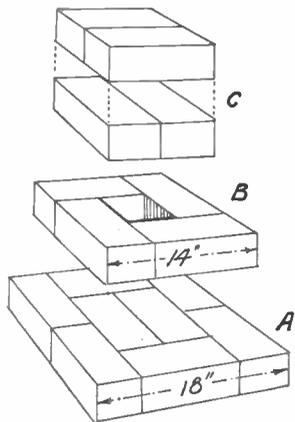

Fig. 1
tar composed of one part cement to three parts of clean sand. Put a  $\frac{1}{2}$ in. layer on the top of the concrete, and proceed to lay the first course of bricks as (A) in Fig. 1. Lay over this course a similar bed of mortar and then the second course of bricks. Note that course (A) consists of whole bricks, while course B is one brick and a half square. The measurements are shown. Be sure to lay course (B) on (A) with an equal margin all round.
The actual pedestal can now be commenced, and, as seen at C in Fig. 1 each course consists of two bricks laid in such a manner that the vertical joints do not coincide, or, in bricklayer's terms, they "break joint".